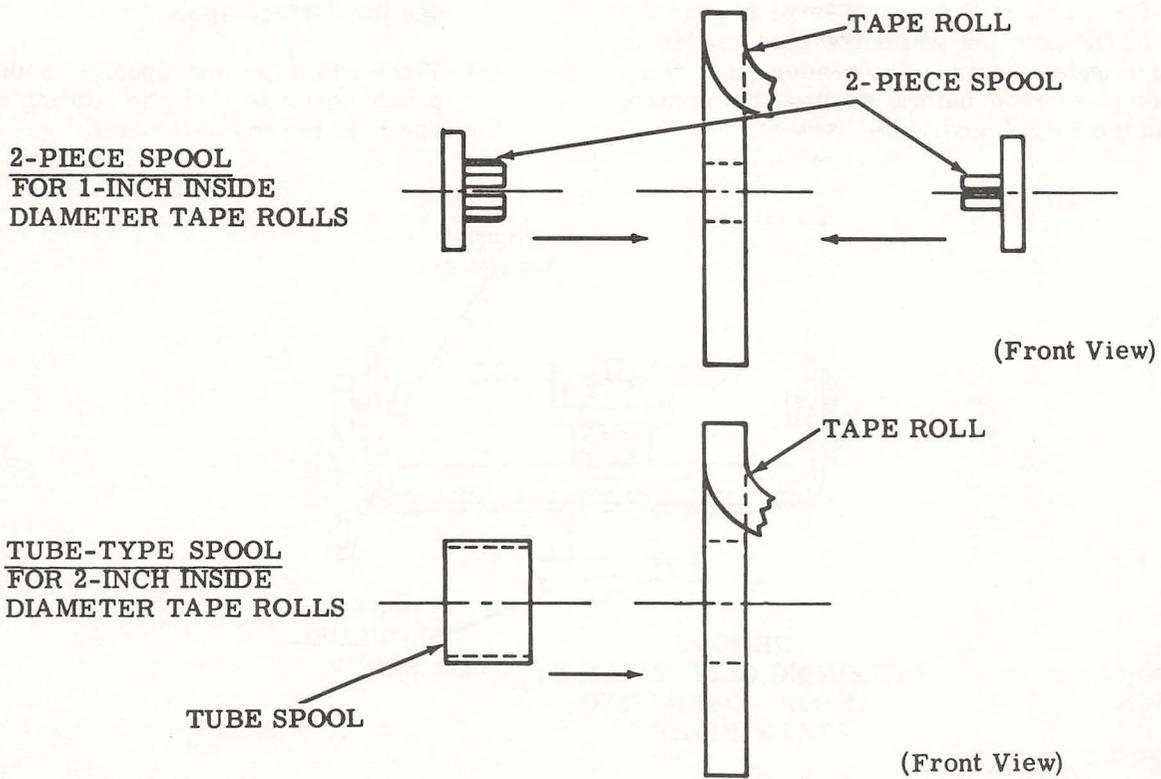

Figure 13 - Tape Roll and Tape Spool Assembly
7.02 Figure 13 illustrates the proper installation of a tape spool in a tape roll.